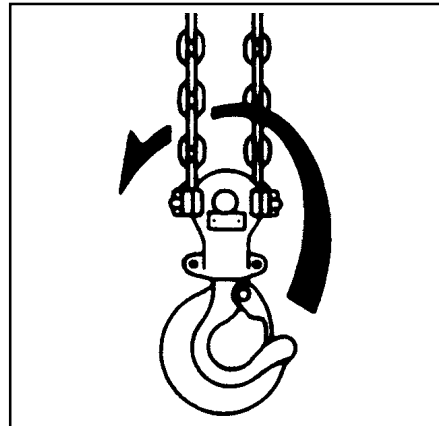

FIGURE 2
- Examine the load chain to ensure that there are no twists. 6 ton lever hoists have 2 falls of load chain. Twists can arise from the bottom hook being accidentally turned over through the load chains (See Figure 2).